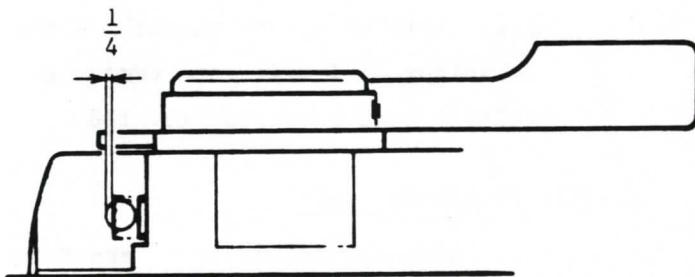

Fig. 141
2) At released position, Preventive lever shall appear until it covers the hole more than $\frac{3}{4}$ as shown in Fig. 141.